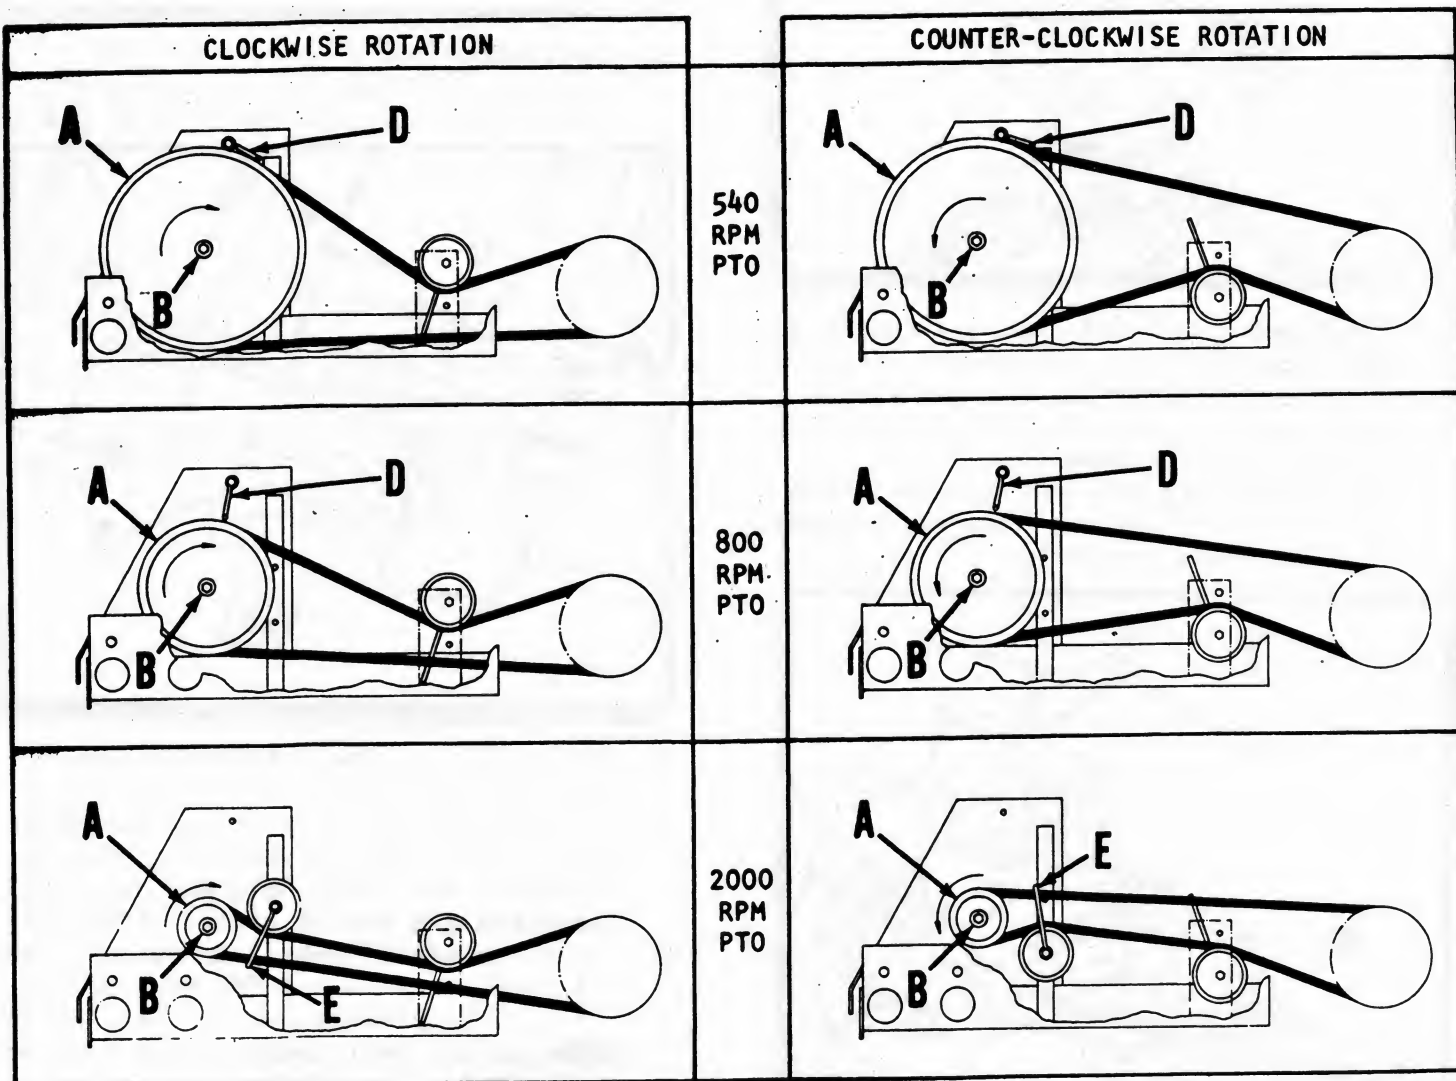

FIG. 5
1. Install idler pulley(s) in position as shown in Figure 5 according to rotation and drive speed of your tractor PTO.
2. Place v-belt around drive pulley (A) and around idler pulley(s) and allow v-belt to lay in approximate position shown in Figure 5 for your drive.
INSTALLATION OF DRIVE PULLEY (FIG. 5)
9. If required for your drive, assemble belt keeper (D) to jackshaft housing assembly with 3/8" bolt and nut found in Drive Kit bag of parts. (Fig. 5)
10. Check to see if v-belt conforms to what is shown in Figure 5 for your drive. If v-belt conforms to what is pictured then adjust belt keeper (D or E as required) 1/8" to 1/4" from v-belt and tighten.